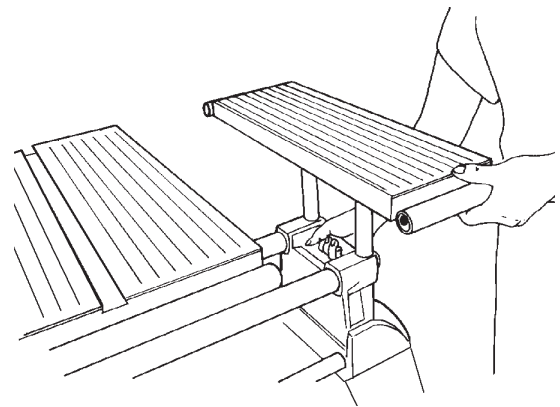

Figure B-99
69. Mount the extension table in the Mark V's accessory base mount (on the right side) at a comfortable height, as shown in Figure B-99. Use a 1/2" wrench to loosen the bottom nuts holding the table base to the table approximately 1/4" from the table. This will allow you room for later adjustment.